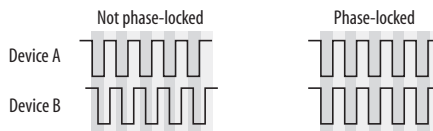

Figure 4-9: When transferring audio, two devices must have phase-locked audio clocks to prevent clicks, pops or other artifacts.
- Synchronizing the 896mk3 with other digital audio devices so that their digital audio clocks are *phase-locked* (as shown in Figure 4-9)